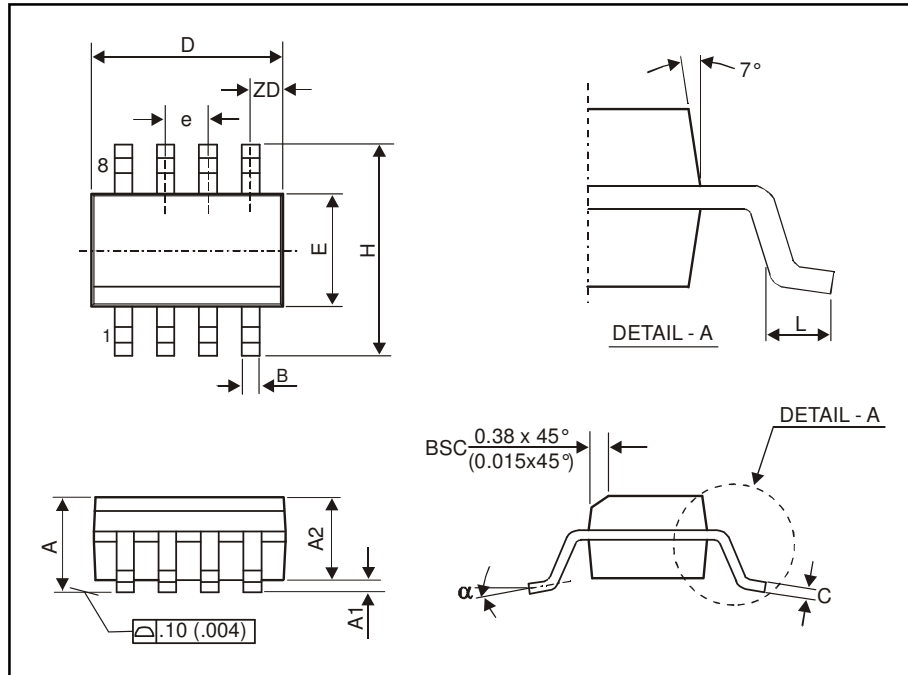

Fig. 18: SOIC8 (Small Outline Integrated Circuit)
typical values at $T_A = 23\text{ °C}$ and $V_{CC} = 3\text{ V}$; test circuit shown in Fig. 18, $f_c = 315\text{ MHz}$
6.1 Test circuit component list to Fig. 18